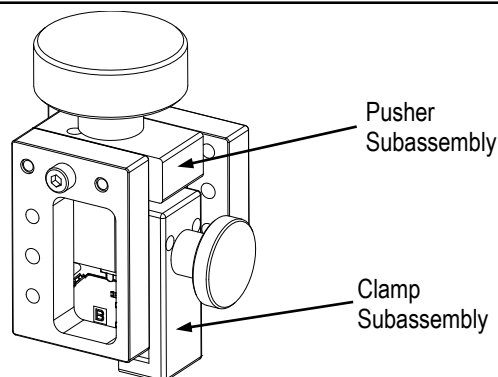

Figure 4
4. Place the pusher subassembly over the clamp subassembly. (Figure 4).